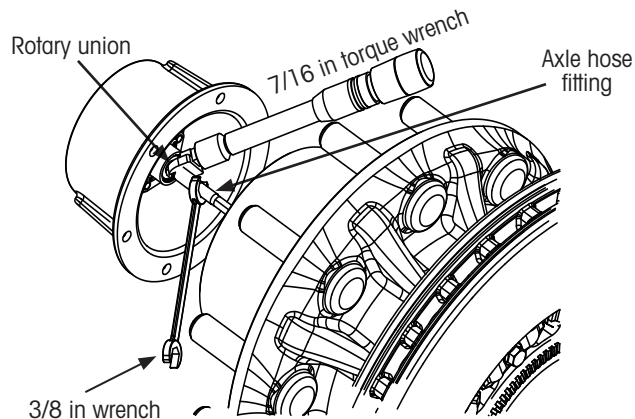

Figure 19: Hubcap to axle hose connection
1. Draw just enough axle hose out from center of spindle to **attach** axle hose fitting to the rotary union inside the hubcap (Figure 19).
4. Similarly to Figure 19, applying an inch-pound torque wrench on the 7/16 inch flats on rotary union shaft and 3/8 inch wrench on the flats of the axle hose fitting, **tighten** connection to 50 ± 5 in. lbs. (5.7 ± 0.6 N•m).